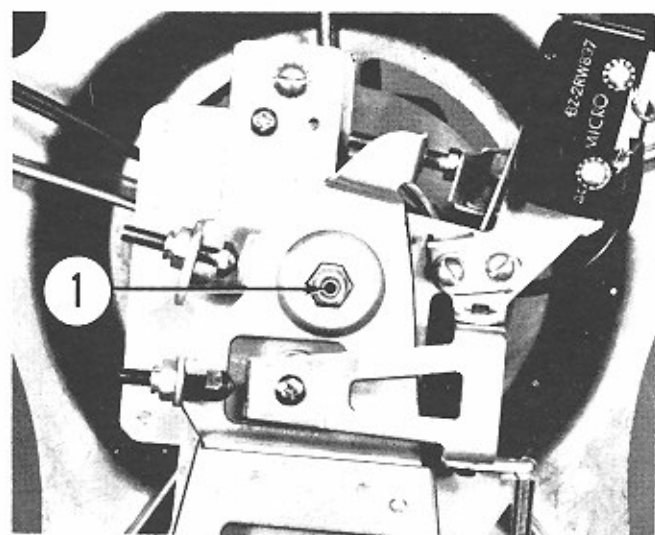
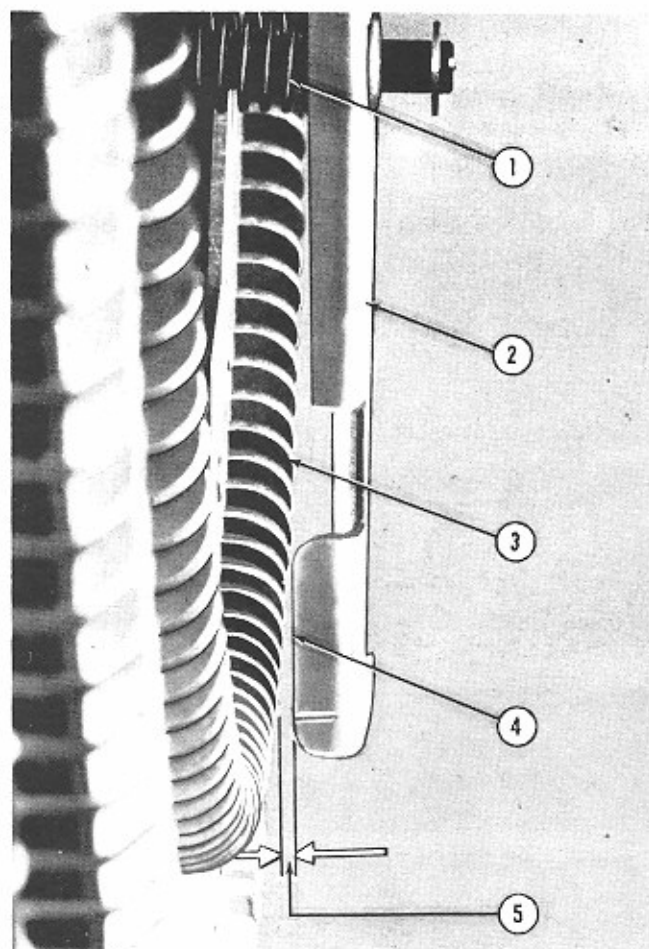

Fig. 69. SELECTOR CRANK CLEARANCE
Fig. 70. SELECTOR CRANK CLEARANCE
n. Selector Crank Clearance. (Figs. 69 and 70)
(1) Adjust the hollow head set screw in the center of the selector (Item 1, Fig. 69) so that its pressure against the "cap and shaft assembly" and the loading cam at the front will position the selector crank to provide $1/32"$ to $1/16"$ clearance between the lip of the selector crank and the ends of the 200 selector pins, as shown in Figure 70. This measurement should be checked at several positions on the selector drum.